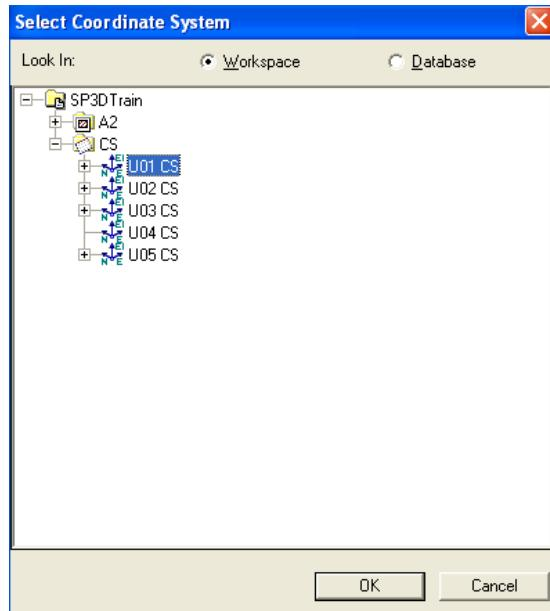

Figure 3: Select Coordinate System Dialog Box
The **Coordinate system** drop-down list shows the last seven coordinate systems that were selected in a session in addition to the three default options seen in Figure 3. These options are as follows:
- **More** - Displays the **Select Coordinate System** dialog box (Figure 3) where you can select the coordinate systems by browsing to it in the system hierarchy. The **Workspace** option shows only the coordinate systems in the current workspace. The **Database** option shows all coordinate systems defined in the model database.